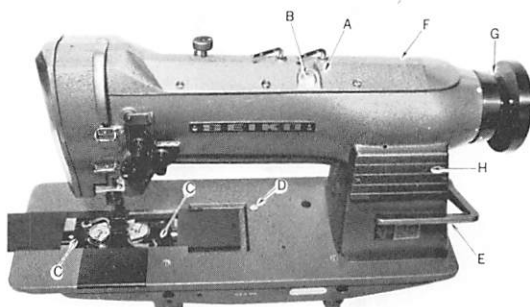
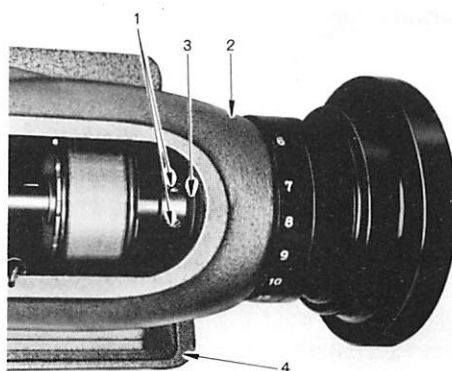

Fig. 2
Fig. 13
(1) To fill the oil reservoir on top of the machine, pour oil through the oil filler hole (A. Fig. 2) until the oil level reaches to the upper reference line in the oil window (B. Fig. 2).
Push open the slide-plates in the bed and pull out the oil gauges (C. Fig. 2).
The stitch length is changed by pressing down the button (D, Fig. 2) in the bed plate of the machine and by simultaneously turning the handwheel slowly toward you.
To do tacking for the purpose of locking the ends of seams, rapidly depress and release the lever (E, Fig. 2).
Remove the arm top cover (F, Fig. 2) and remove the timing belt from the belt pulley, loosen the collar set screws (1, Fig. 13).
Loosen the two set screws (G, Fig. 2) for the handwheel and remove the handwheel adjusting screw (14, Fig. 1), draw out the handwheel from the arm shaft.
Loosen the arm shaft rear bushing set screw (2, Fig. 13), pull out the rear bushing (3, Fig. 13) from the arm hole.
In case of the machine with reverse stitch mechanism, draw out the reverse lever (E, Fig. 2) with its shaft.